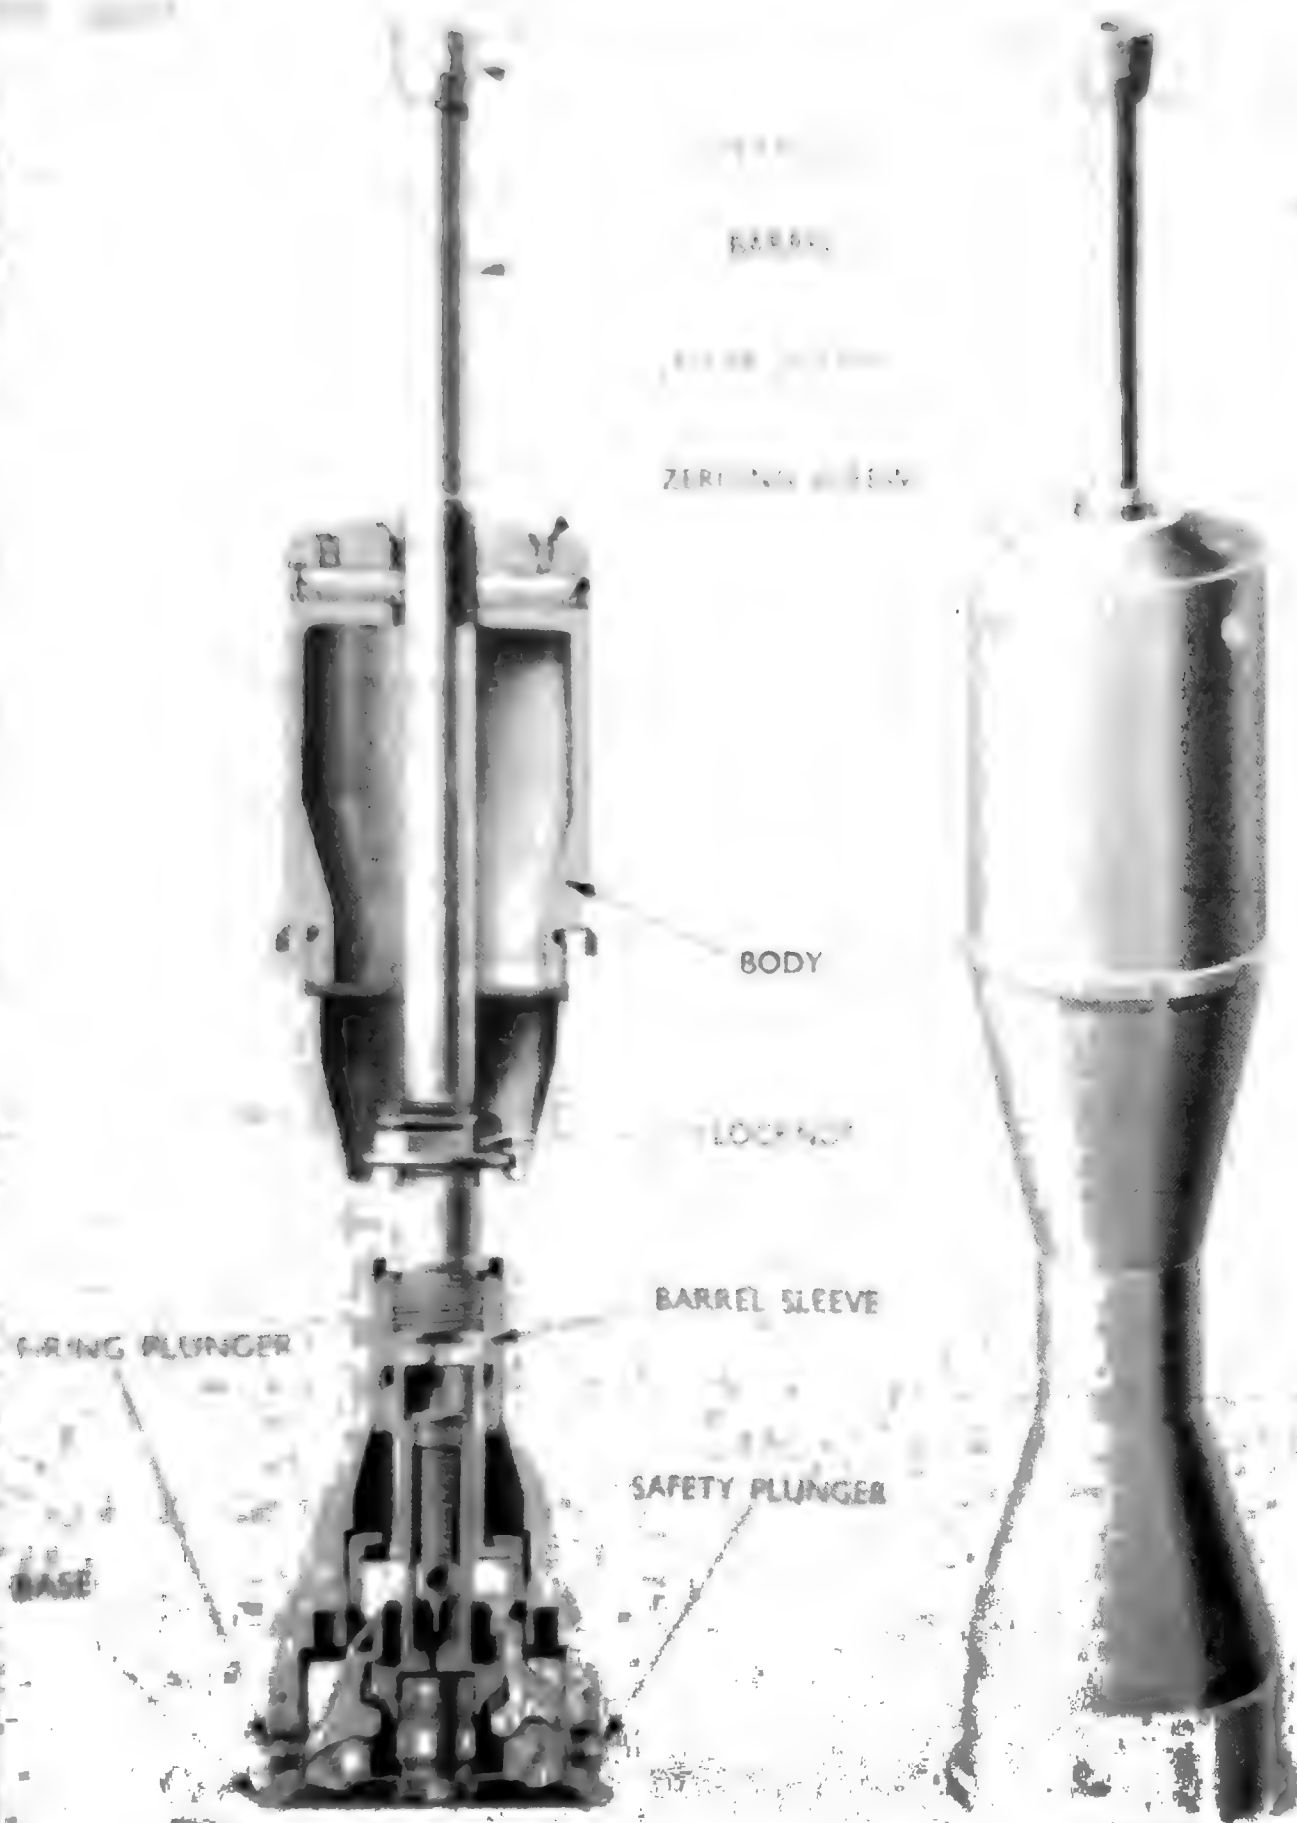

Fig. 23 4.2 inch Sub-Calibre Adapter L. 1. 11
63. *Body (L1A1 Adaptor).* The body of the L1A1 Adaptor (Fig 23) is of conventional bomb shape and is in two parts, screwed together at the rear end of the parallel portion. The rim at the base is identical with the rim of the full calibre cartridge case. Single and double lines, engraved on the base, respectively denote 'Safe' and 'Fire' settings for the firing mechanism. Forward of the rim, two diametrically opposite borings house the firing and safety plungers.